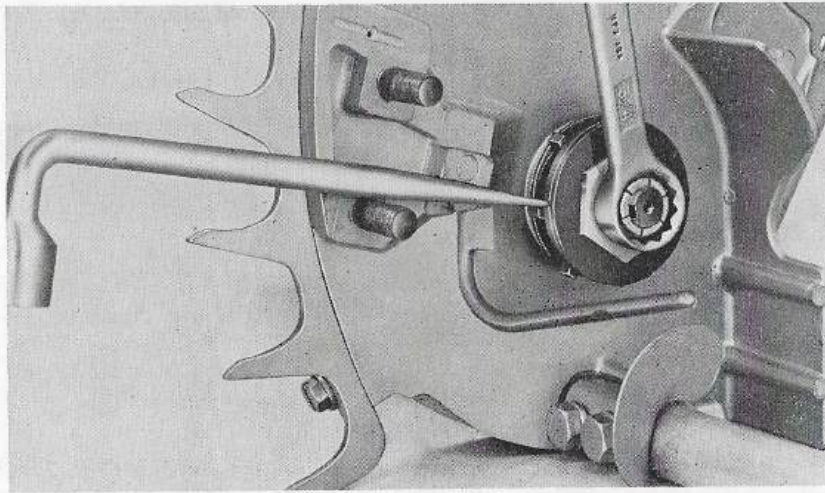

Figure 22—Blocking Chain-Sprocket to Tighten Locknut
(2) If sprocket pulley has been removed from sprocket shaft, replace it. Fasten sprocket pulley to shaft with four 10-32 x 1/2" flat head screws. Stake screws to shaft.
(3) With a mallet, drive the sprocket shaft into position. Place the small spacer on sprocket shaft. Replace chain drive sprocket key. Position chain drive sprocket on shaft, hex nut away from drive case, replace flex locknut and tighten securely. Block shaft with screw driver against sprocket as shown in Figure 22.
(4) If handle bar has been removed, replace handle bar and fasten to drive case with four 5/16-18 x 1 1/2" aluminum hex head bolts and lockwashers.
(5) If clutch drum bearings have been removed, replace one bearing from drum side. Then replace spacer and the other bearing from the rear.